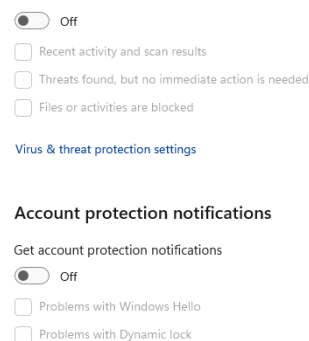

Figure 1.3.3 Firewall Disabled Notification
- 3 Click Firewall Notification Settings and toggle notifications to Off. As shown in Figure 1.3.3.